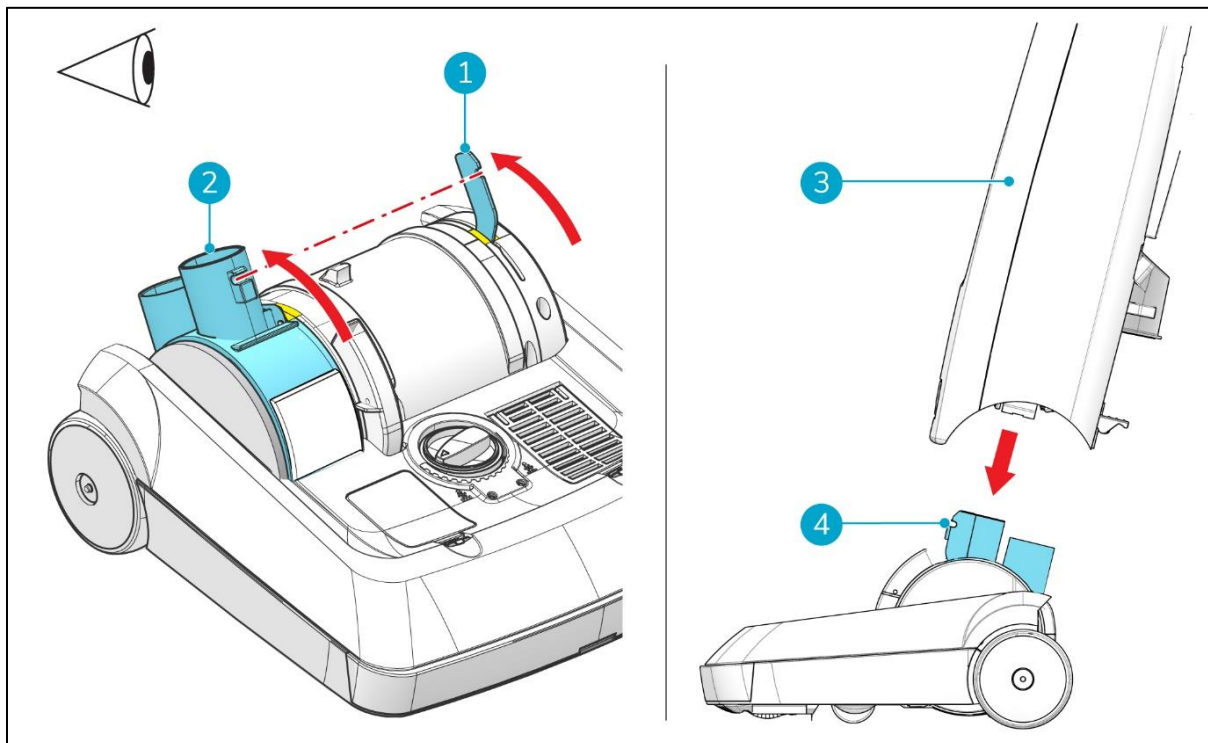

Figure 8
1. Adjust the swivel nick shaft to align its yellow mark with the yellow mark on the motor side cover (Figure 8, pos 2).
2. Adjust the steel support bracket with the yellow mark on the right side of the motor cover (Figure 8, pos 1).
3. Lift the upper body (Figure 8, pos 3) and insert it into the bottom brush unit.
4. Push the upper body until it is locked by the brush unit hooks (Figure 8, pos 4).